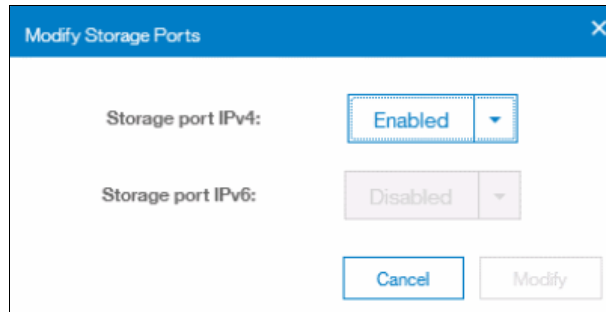

Figure 5-66 Enabling a Storage port
3. Set the port as **Enabled** for either IPv4 or IPv6, depending on the protocol version configured for the connection, as shown in Figure 5-66.